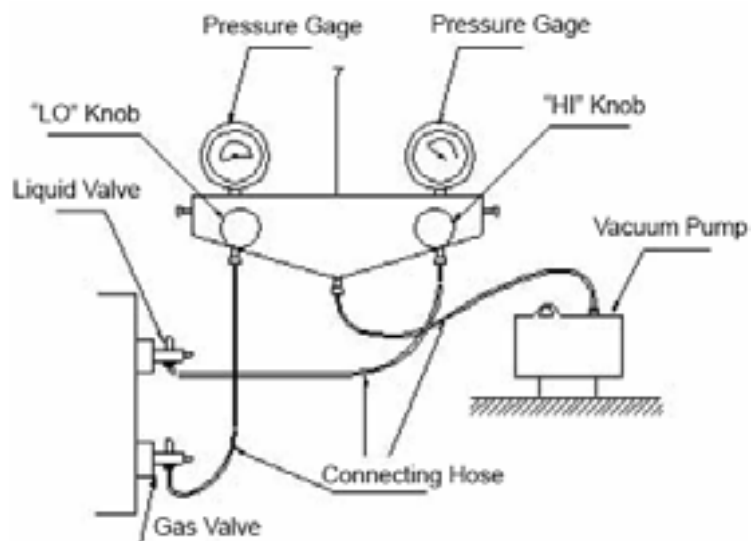

Fig.3.1.10
- ◆ Connect the tube of the vacuum watch with the vacuum pump, with the low-pressure end linking to the inlet for refrigerant. (As shown in Fig.3.1.10)